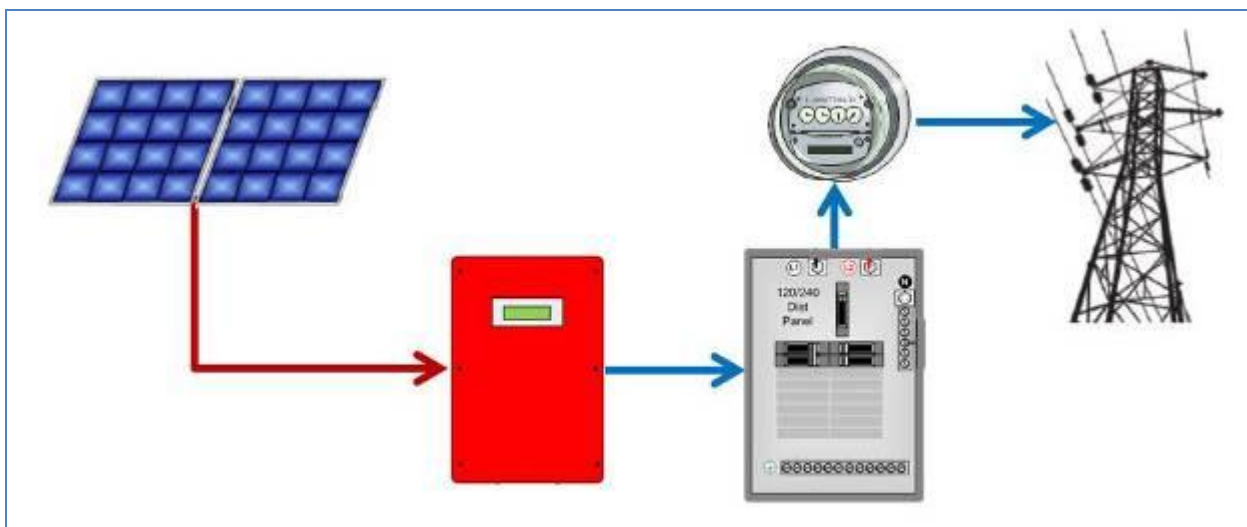

Figure 1 – Typical Grid Tie Inverter Utility Connection
**The basics:** As mentioned previously, by far the most common configuration of a PV generation system is an array of PV modules feeding a grid-tied (GT) inverter that converts the DC power to AC power, then fed through the building’s service panel and on out to the electrical grid (see Figure 1). The grid acts like a battery and the renewable energy is placed on the grid for collective consumption, which, in turn, reduces generation other sources. The grid-as-a-battery is a great concept, until it’s no longer there – the grid-tied inverter requires the grid to stay powered per the UL1741 requirement for safety reasons. Without grid power to keep the GT inverter operating, the available PV power just sits on the roof unused. And during an outage, a home or business with PV electricity potentially available is in the dark just like everyone else.